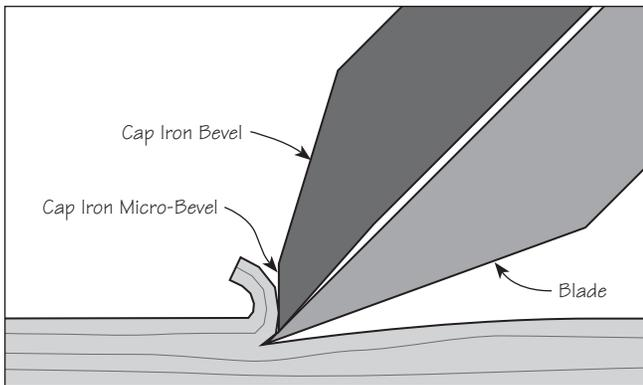

Figure 7: Using a cap iron with a micro-bevel.
*Note: The leading edge of the cap iron has been ground to 30°. Our research indicates that this is the best general-purpose angle for a cap iron. Should you desire a higher angle, you can grind a micro-bevel to the leading edge of the cap iron, as shown in **Figure 7**. Grinding anything more than a micro-bevel is unnecessary, as the chip contacts the cap iron at its leading edge. Also, shortening the cap iron more than 0.050" will consume all of the adjuster range, causing the adjuster knob to bottom out against the heel of the blade.*